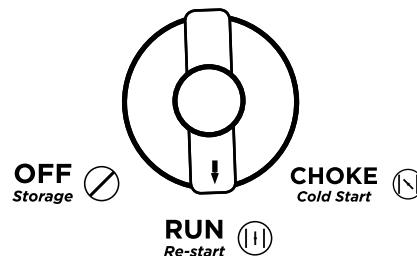

Figure 9: Turn Engine/Fuel Switch to RUN
5. As the engine starts and stabilizes, turn the choke switch back in to the **RUN** position (see Figure 9).